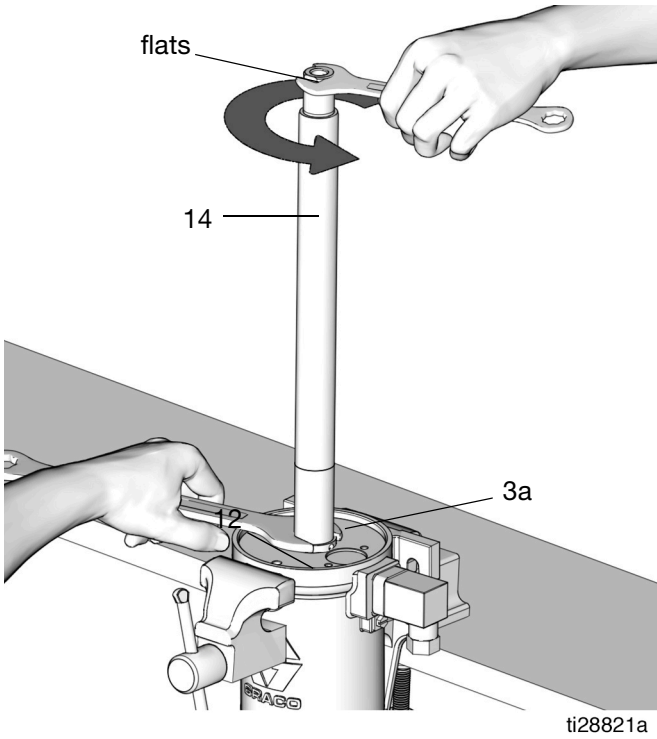

FIG. 15
Securely hold nut (3a) [located on the bottom of the pump cylinder (12)] in place with a wrench. Secure a second wrench on the flats of the outlet tube (14). Turn outlet tube counter-clockwise to loosen and remove it from the pump cylinder (12) (FIG. 15).